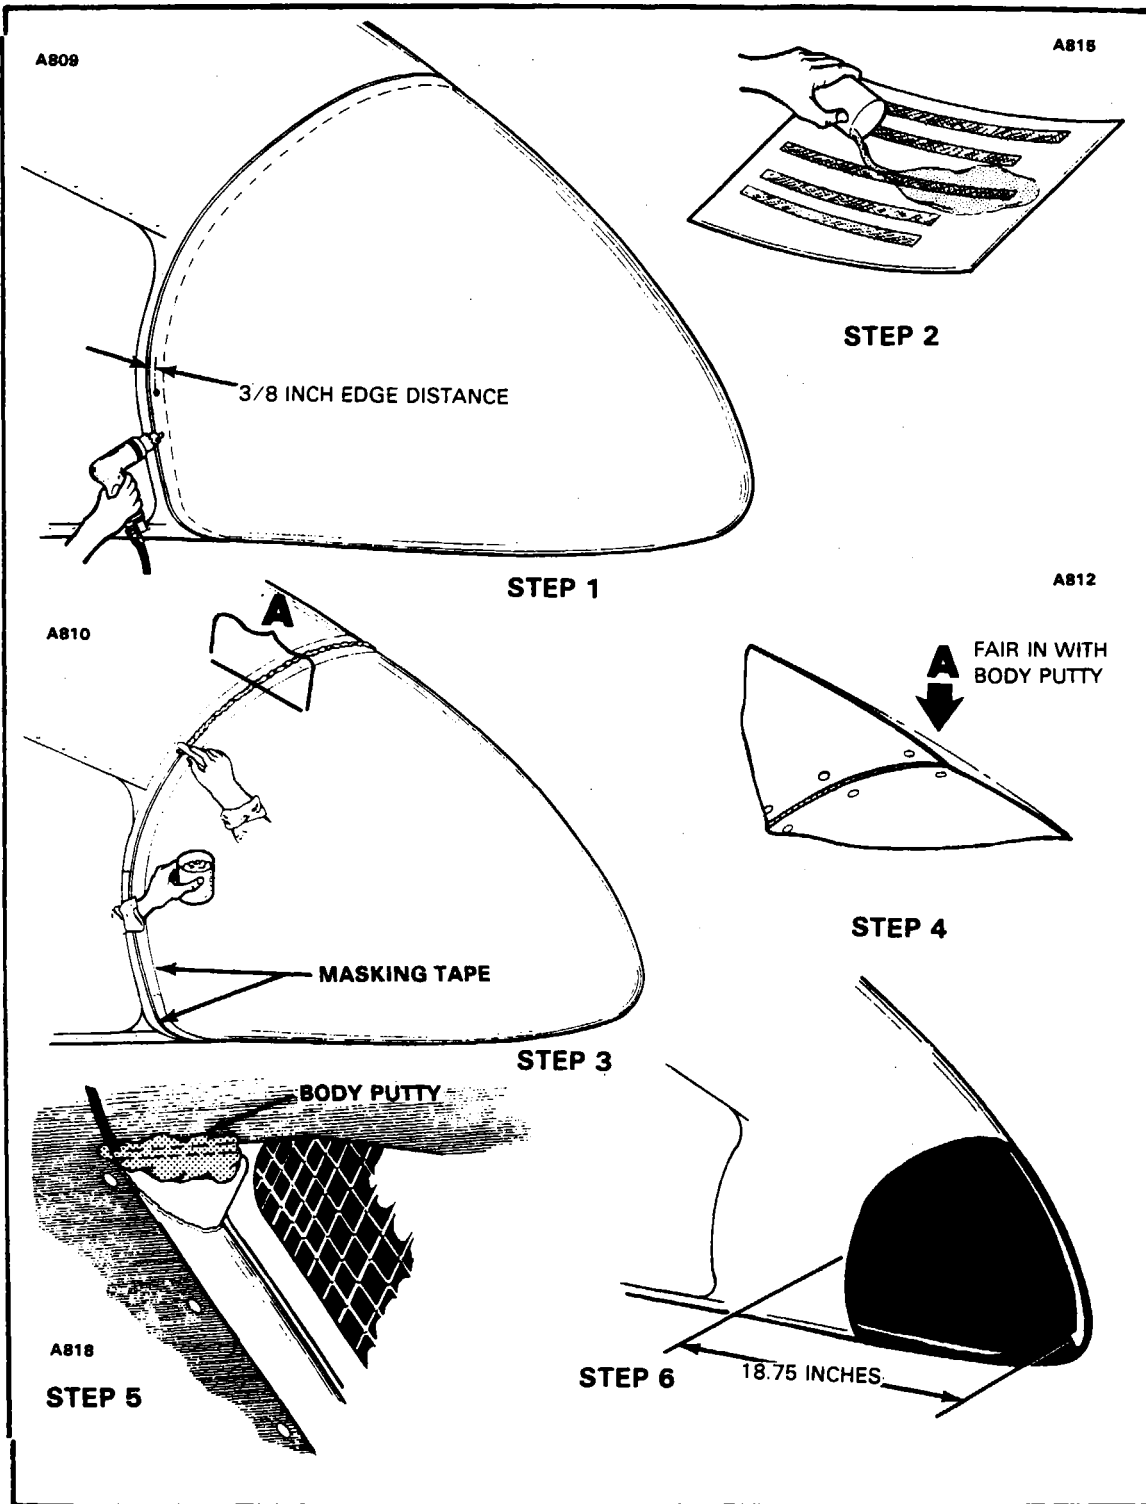

Figure 4-26. Installation of Nose Cone/Radome
DO NOT physically **FORCE** the nose cone/radome to fit flush with the aluminum nose section. Maintain at least a 3/8 inch gap and build up the cone with paste (Kit 763 904), and then body putty as shown in Figure 4-26 (of the proper mix) respectively.
g. Drill (as shown in Figure 4-26, Step 1) .098 inch holes in the nose cone to match those in the bulkhead mounting flange, twenty eight of the same for the radome (equally spaced to clear holes in flange), maintaining in the cone at least a 3/8 inch edge distance from the center of the rivet holes to the edge of the fiberglass.
i. With the nose cone/radome riveted in position, prepare four pieces of fiberglass matting (3/4 oz., .75 x 15 inch) by placing the pieces on a piece of carboard, or other, and saturating them with prepared resin by pouring it over them as shown in Figure 4-26, Step 2. Lay and pack the matting around the mounting flange at bulkhead, station -12.62. **MAKE SURE** the matting is packed such that it contacts the fiberglass cone through the holes in the flange.
j. Prepare the other required matting (see Figure 4-26, Step 2) pieces and install them along their specific mating flanges.
If the nose cone/radome does not touch the air scoop on both sides fill in from inside with fiberglass matting and later, outside with body putty as shown in Figure 4-26, Step 5.
- l. Using the fiberglass paste kit (763 904) mix up the required amount (working time 15 to 30 min. depending on amount of hardener used) and lay masking tape (as shown in Figure 4-26, Steps 3 and 4) around the seam such that the paste does not spread onto the metal or fiberglass cone. Spread paste into seam with a wood (tongue depressor) or soft plastic spatula.
- n. Mix some body putty and hardener; then with a wooden or plastic spatula (to keep from scratching the cone or aluminum) apply putty to the seam area, also to the sides of the lower air vent (see Figure 4-26, Step 5) if the cone doesn't contact it, and go over the putty with a wide plastic spreader to even out the putty.
- p. Finish by priming, sanding, and color coating. DO NOT paint over honeycomb section. When finishing radome, tape around the nose cone 18.75 inches back from the tip of the cone and paint that area with a flat black polyurethane paint only. (Refer to Figure 4-26.)